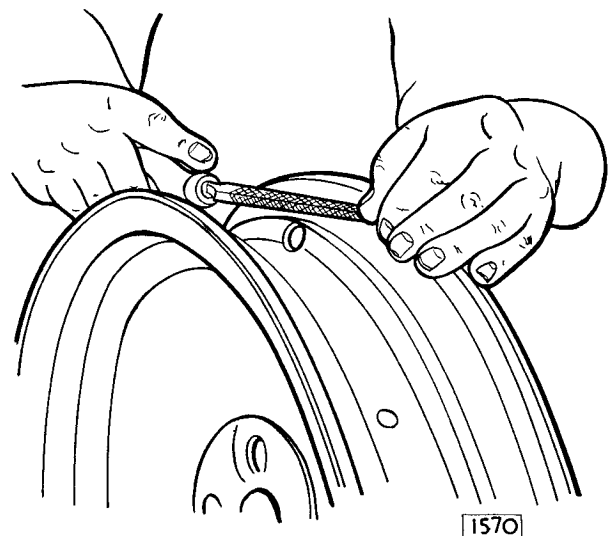

Fig. 15. Removing high spots from weld joint.
4. File or buff away any high spots at the welded joint. (Fig. 15.)